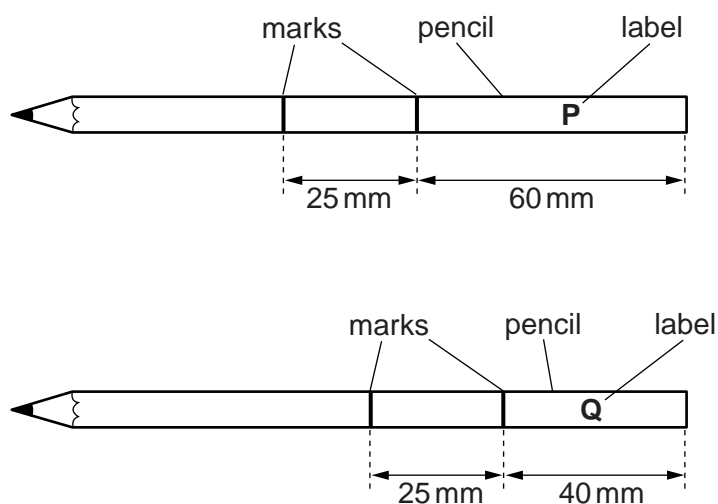

Fig. 2.1
- 1 Use a fine permanent marker pen to make marks around each pencil and to label them as shown in Fig. 2.1.